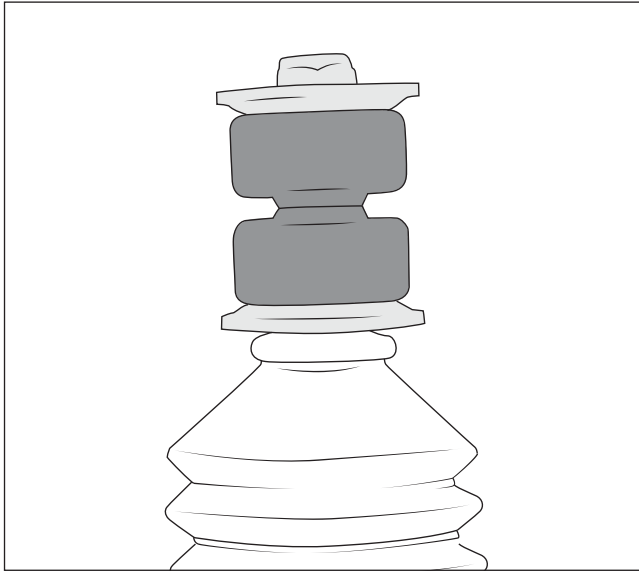

Figure 15
15. Assemble shocks with bushings and washers in the arrangement shown below then install shocks. Use an allen wrench to keep the shock from rotating while tightening the hex nut (fig. 15).